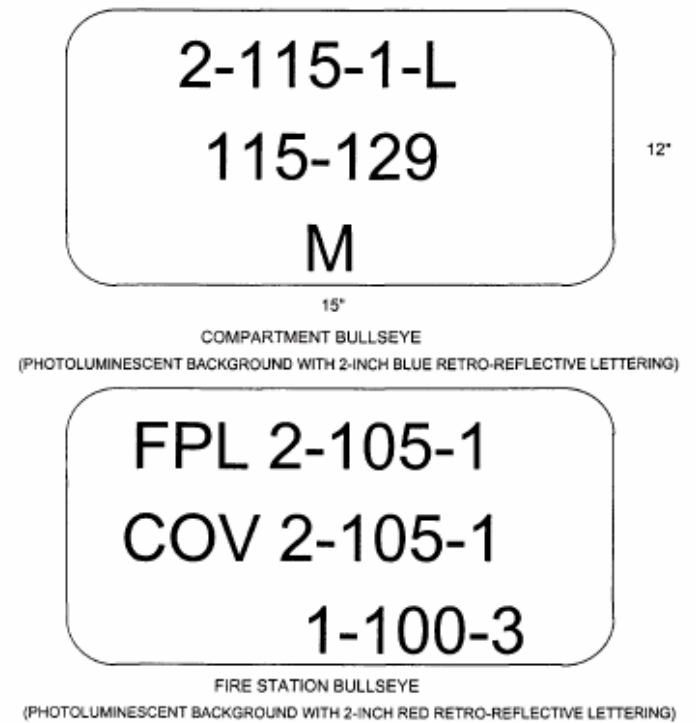

Figure 5
p. Compartment bull's eyes are to be applied in each space or compartment to identify the space, setting forth the frames that bound the space and the division responsible. An example is shown in Figure 5.
q. Interior fire station bull's eyes are to be applied as near as possible to each interior fire plug, sized to best fit the area available, preferably immediately above the fire plug valve. Figure 5 also depicts fire station markings.